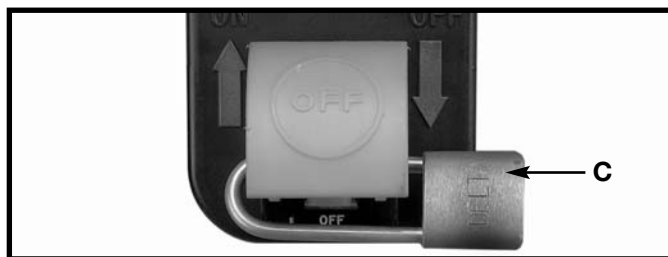

Fig. 44
**IMPORTANT: When the machine is not in use, the switch should be locked in the "OFF" position to prevent unauthorized use, using a padlock (C) Fig. 44 with a 3/16" diameter shackle.**